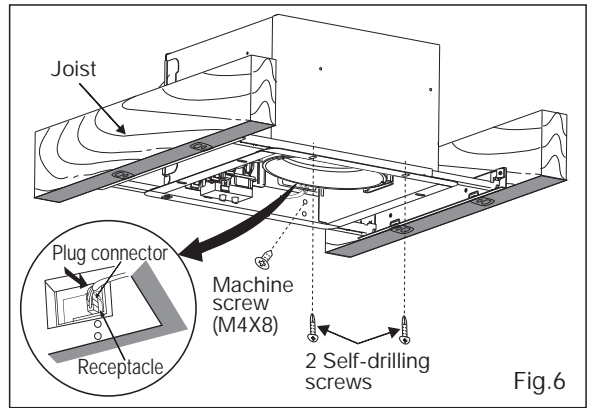

Fig.6
1. Disconnect plug connector from receptacle (Fig.6) and remove adaptor from fan body by removing the machine screw (M4X8) before installation. (Fig.1)
8. Insert fan body and slide into adapter assy with some strength, until the flange overlaps the Flex-Z Fast™ bracket. Secure the fan body to Flex-Z Fast™ bracket by using 2 self-drilling screws, plug connector to receptacle and secure the fan body to adaptor by using machine screw (M4X8). (Fig.6)